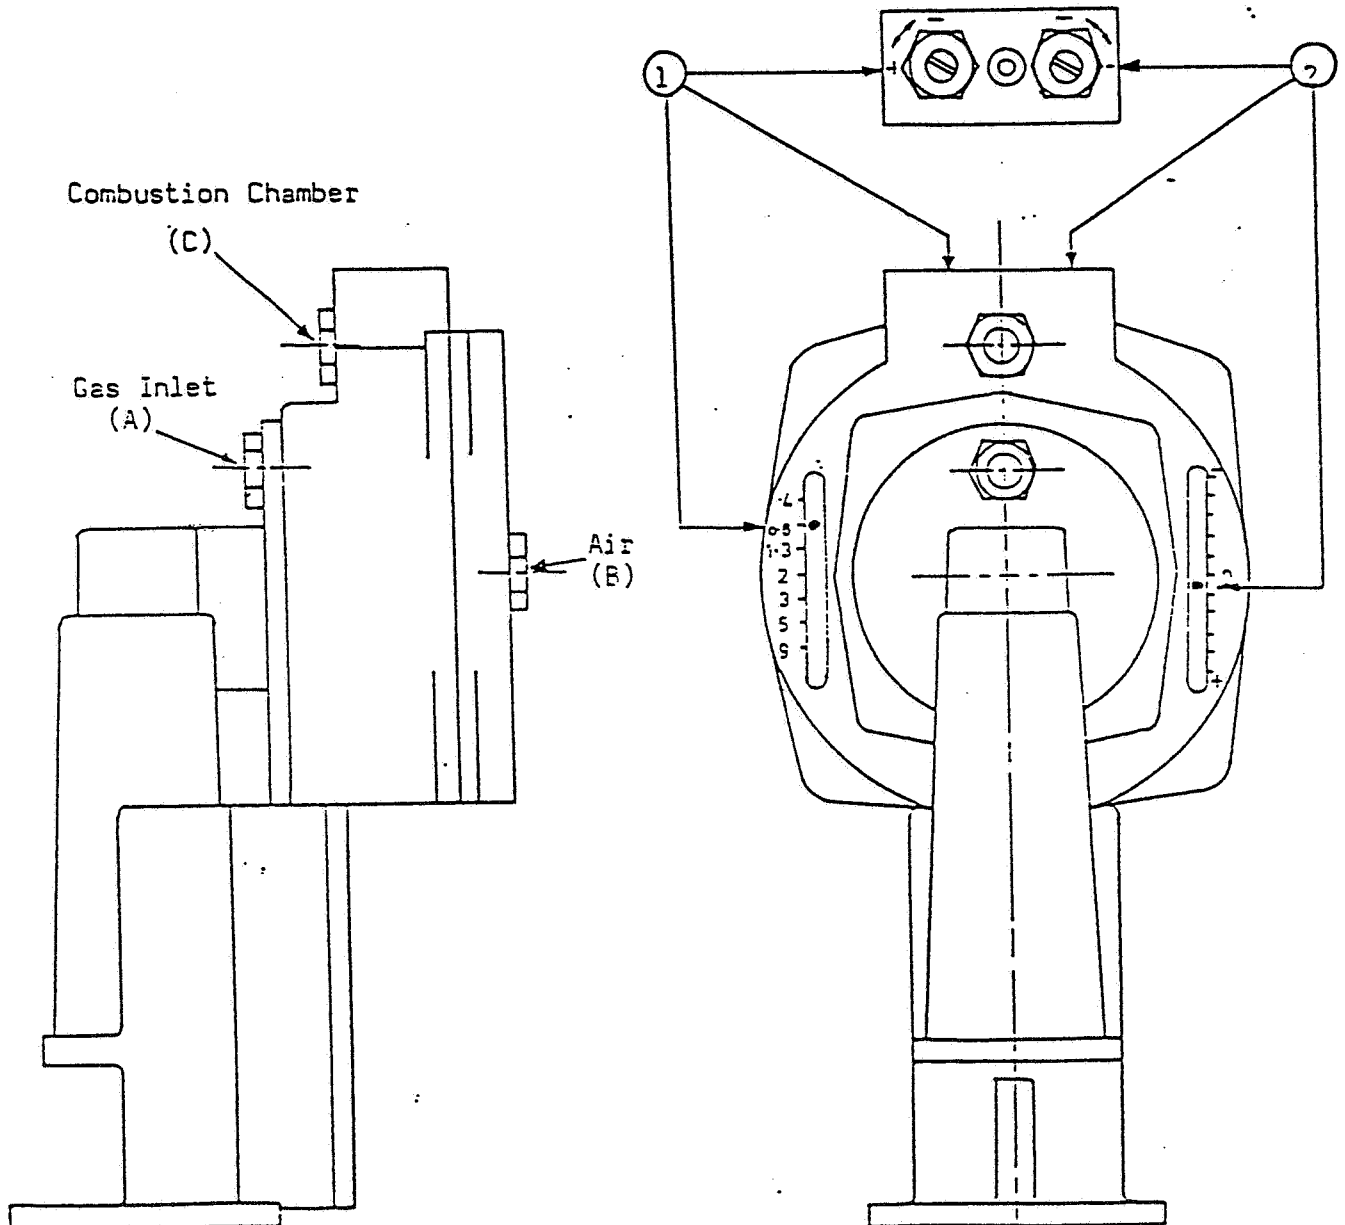
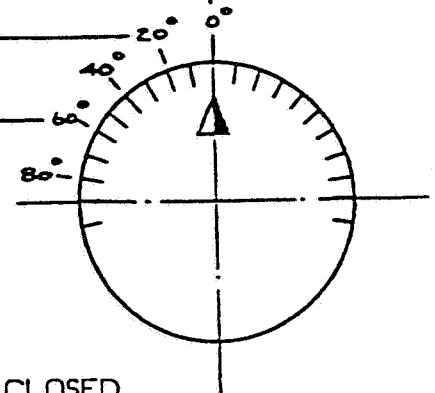

Fig. 9. Combined Governor/Safety Shut-Off Valve.
Fig. 11. Air Damper Cam Arrangement.
(a) Combined Governor/Safety Shut-Off Valve (S.S.O.V Fig.9).
Move the inching switch to the "+" position and allow burner to establish high fire rate. It may be necessary to adjust Cam 3 (Fig. 11) to establish the correct rate, and adjust SKP70 valve (Fig. 9).
The final setting of Air/Gas ratios may now be made on the Adjusting Screws (1) and (2). Fig. 9. Adjustments between High and Low Fire are unnecessary due to the compensating operation of the Gas/Air Ratio Control on receiving signals from the three Impulse Pipes.